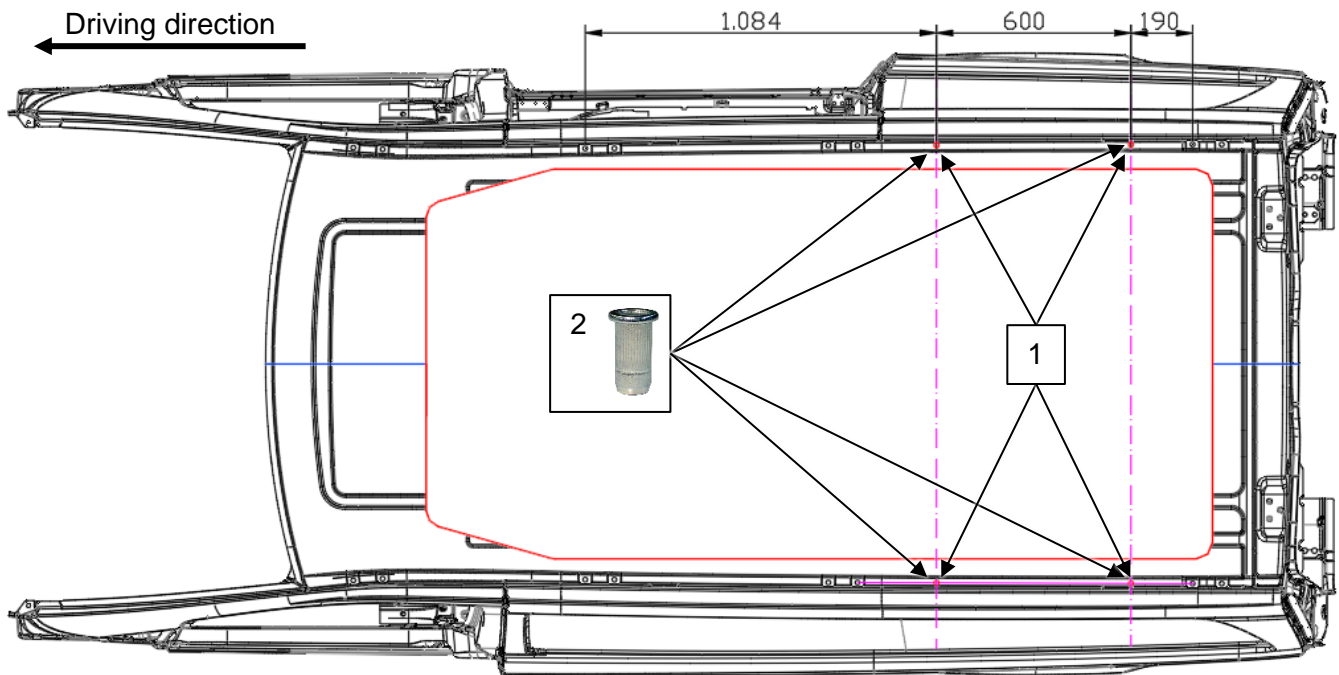

Fig. 3-1: Position of the rivet nuts [A003880]
- Drill the four holes (see Fig. 3-1 **Fehler! Verweisquelle konnte nicht gefunden werden.**, 1) for the rivet nuts, deburr them and treat with rust inhibitor
- Fix the rivet nuts (2) in the prepared holes